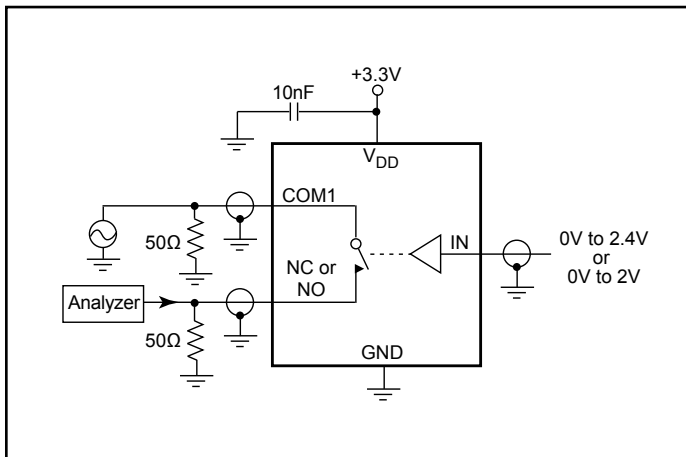

Figure 3. Off Isolation
4. Off Isolation = $20\log_{10} [V_{COM} / (V_{NO} \text{ or } V_{NC})]$. See Figure 3.